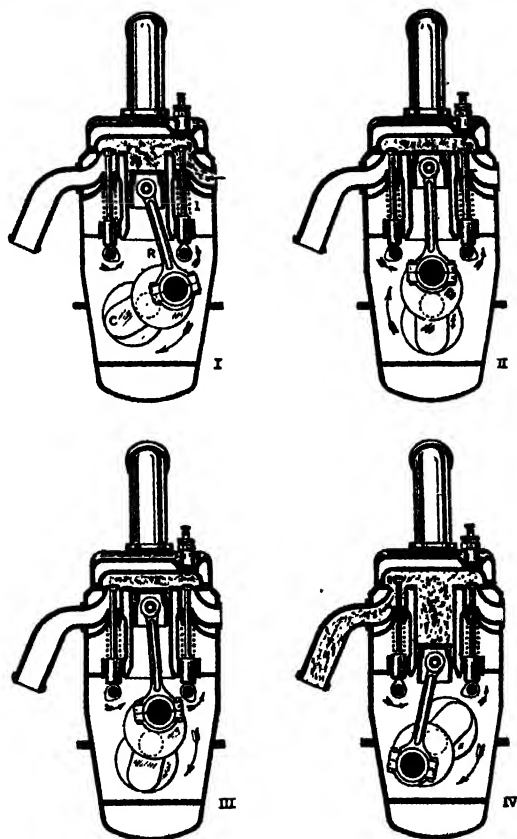

FIG. 148.—The Otto cycle in a petrol engine.
The simplest internal combustion engine to discuss is the petrol engine, because almost every reader has access to one; Fig. 148 shows the essential portion of it—the cylinder, piston, valves, ignition and crankshaft. The principle of every internal combustion engine is that a charge of air and something that will
burn is set burning in the cylinder. The heat generated expands the air and burnt gases and these thrust down the piston. The internal combustion engine is very efficient because the energy of the burning gas at the beginning of the stroke is so much higher than that of the exhaust gases. Moreover, all the energy is generated in the cylinder and there are no such losses as occur in the steam engine when the heat has to be transferred from furnace to boiler. In Fig. 148 (I) the piston is being dragged down by the crankshaft (C) pulling on the connecting rod (R). The cam (p. 188) has lifted the inlet valve (I) and the cylinder fills with the "charge" of air and petrol vapour produced in the carburettor. By the time the piston reaches the bottom of its stroke, the cam has moved on and the inlet valve closes. The shaft now carries the piston to the top of its stroke (Fig. 148, II) and so compresses the petrol vapour and air to, say, a sixth of its bulk. The contact-breaker (geared to the shaft) now causes a spark to pass between the points of the sparking-plug. The charge explodes and drives the piston down (Fig. 148, III)—on this stroke only is there any work done by the engine. As the piston rises again (Fig. 148, IV) the left-hand cam opens the exhaust valve and the burnt gases are expelled through the exhaust pipe. This, the Otto, or 4-stroke cycle, is used in nearly all petrol engines, gas engines and Diesel engines. The difference between